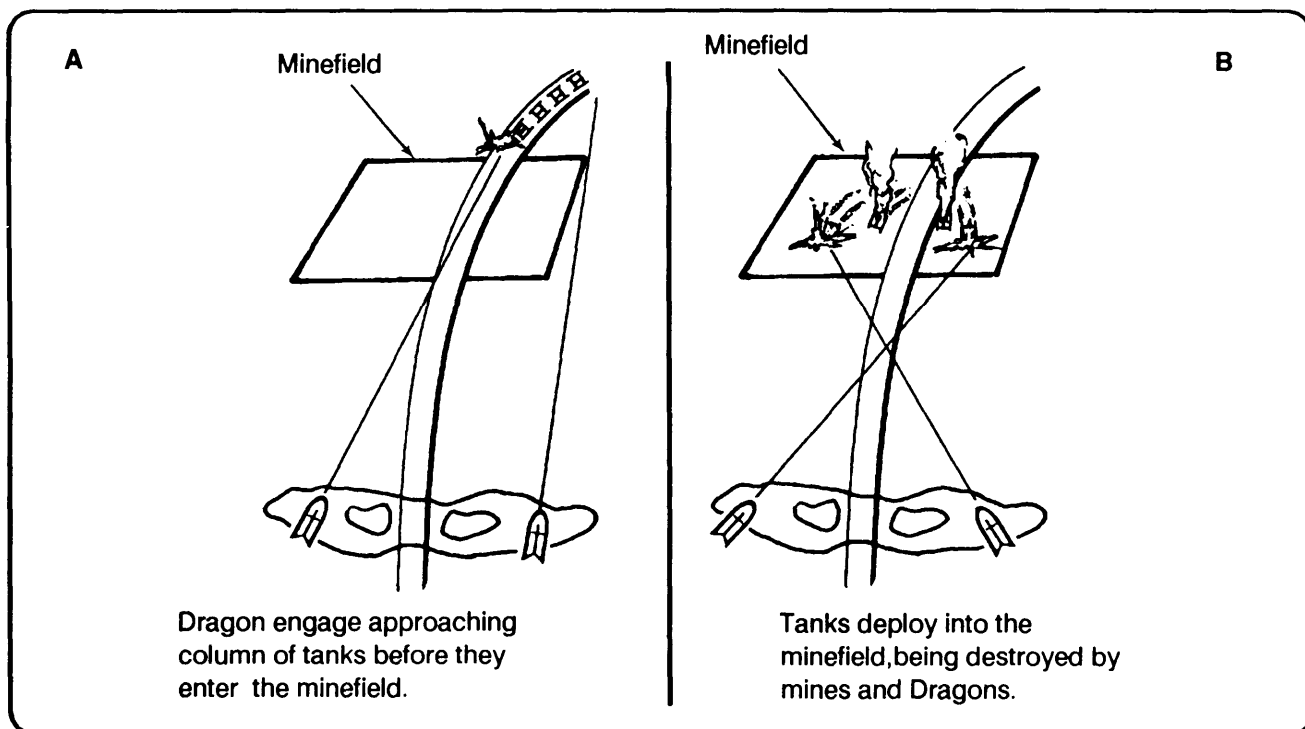

Figure 3-7. Covering minefield.
(1) Dragons engage an approaching column of tanks before they enter the minefield. (See A, Figure 3-7.)
(2) Tanks continue to deploy into the minefield and are destroyed by mines and Dragons. (See B, Figure 3-7.)